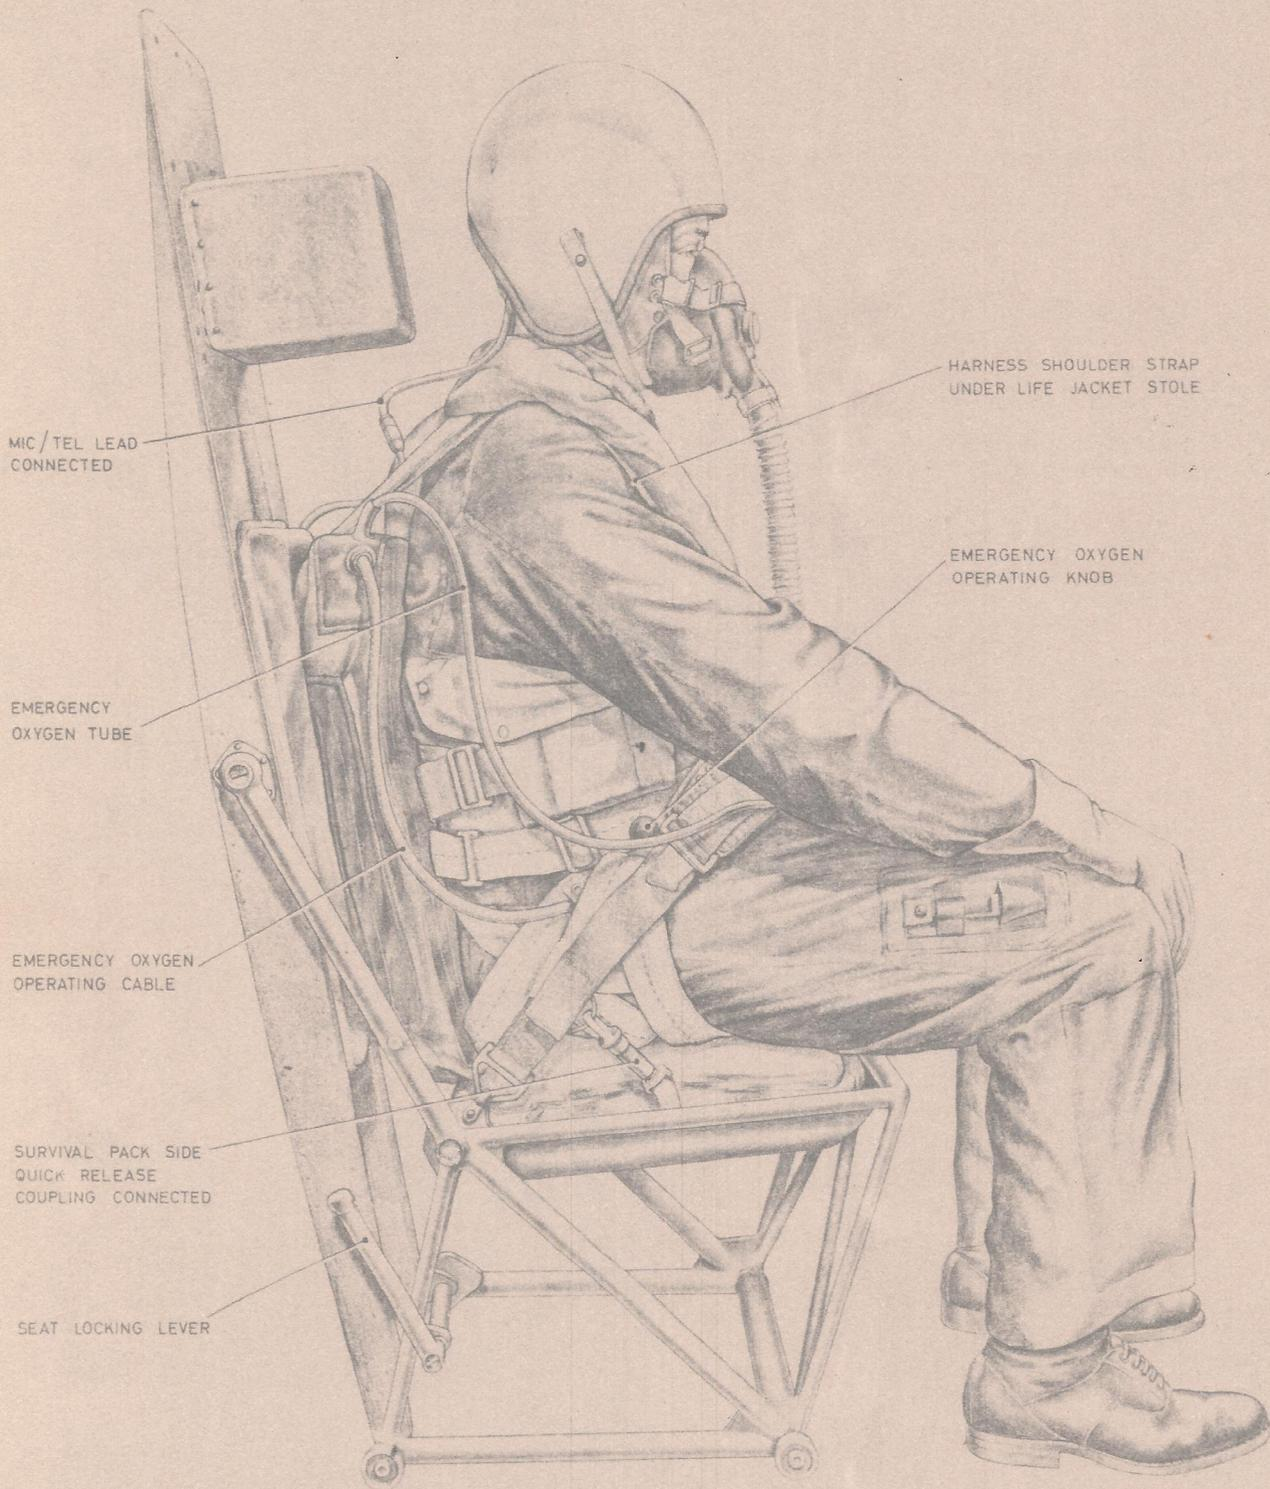

Fig. 7 The static seat occupied (1)
20. Strapping in procedure for each crew member is the same and is as follows; refer to fig. 7 and 8 for detail: -